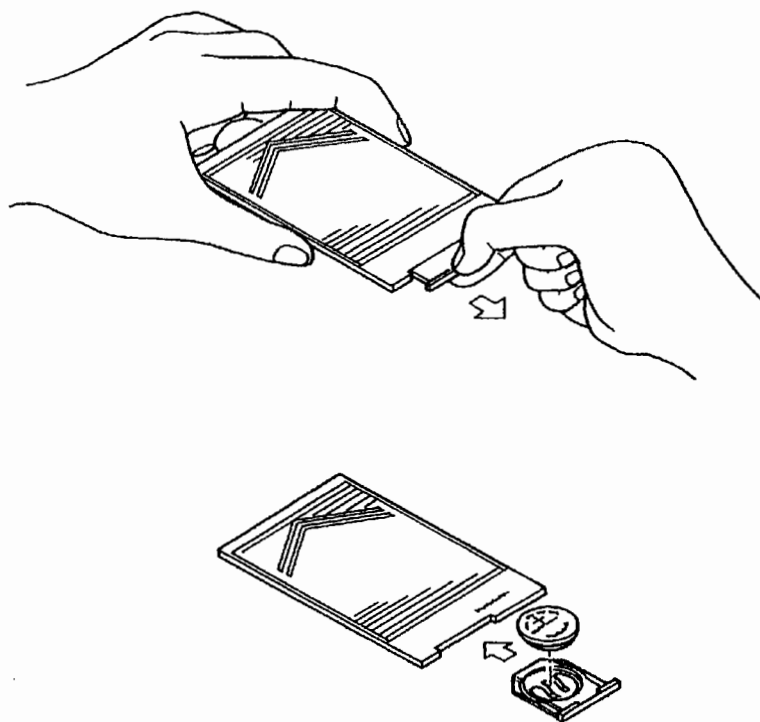

Figure 6.20
- (1) Hold the IC memory card so that the side which shows the part number faces upward.
- (2) Place your finger nail in the battery holder groove and pull it forward to take out the battery holder (Fig. 6.20).
- (3) Insert a new battery (B9586JU or B9586JV : optional) into the battery holder.
- (4) Insert the battery holder into the IC memory card.